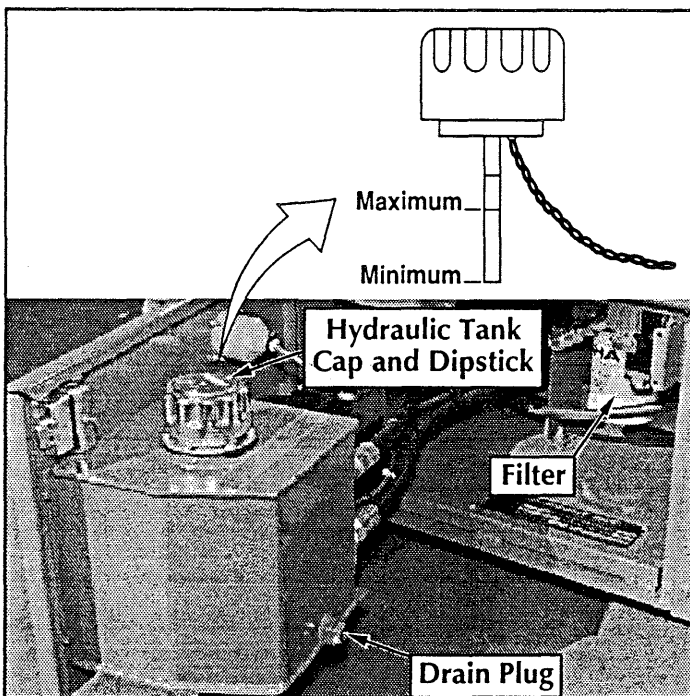

Figure 4-4: Hydraulic Oil Tank and Filter
HYDRAULIC OIL TANK AND FILTER (Figure 4-4)
9. Fill the hydraulic reservoir with hydraulic oil (see Section 1.2) until the oil comes up just past the end of the dipstick, Figure 4-4. Hydraulic tank has a 1.8 gal. (7 l) capacity.